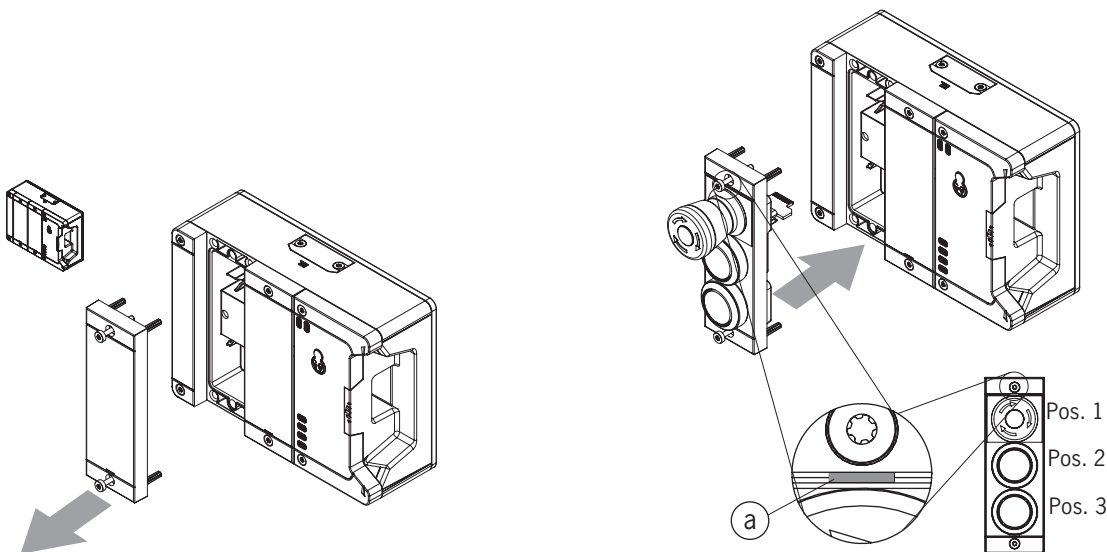

Fig. 10: Mounting submodule
- › Pay attention to the alignment of the submodule. See marking (a) in *Fig. 10: Mounting submodule*. Submodules can also be installed rotated by 180°. The marking (a) always indicates the first position to be equipped. This is the emergency stop S1 position in the example below.